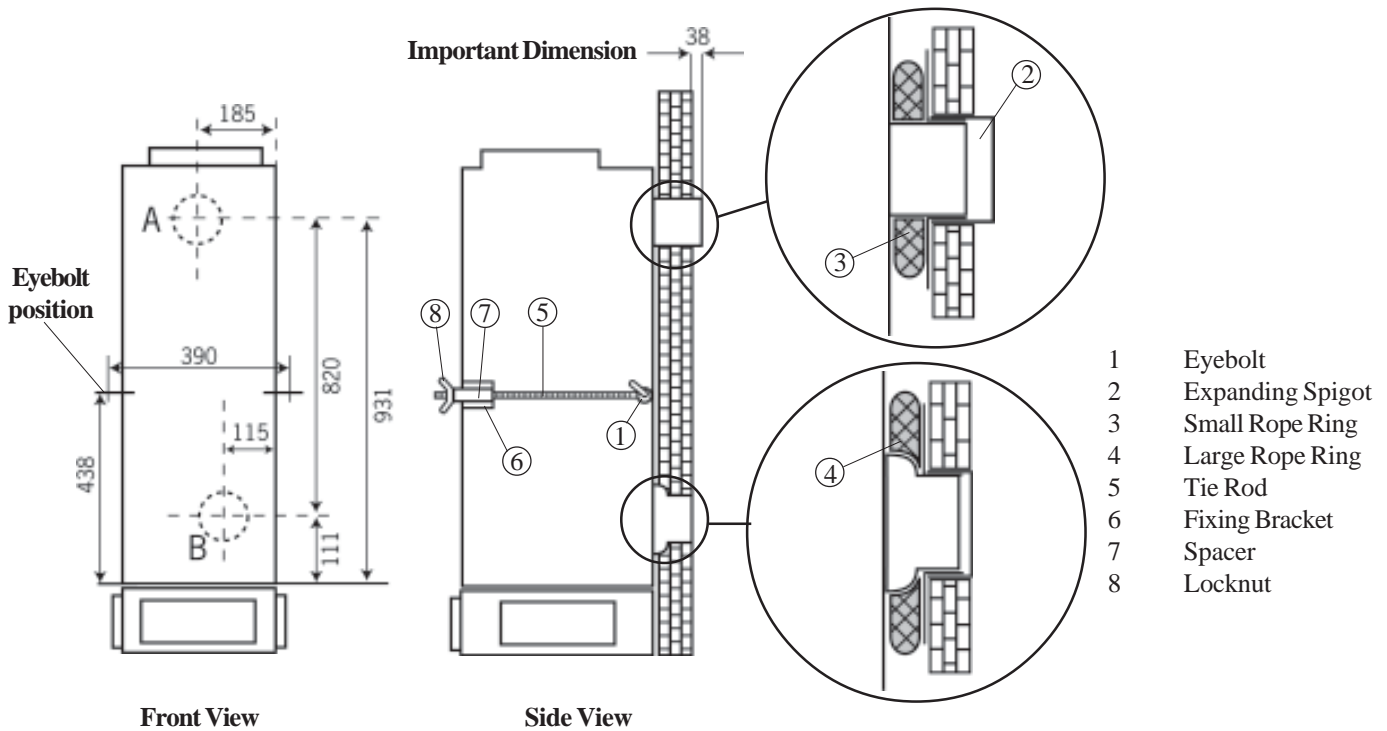

Fig. 2
- 5.2.3 **Referring to Fig. 2, NOTE THE DATUM POINTS INDICATED before proceeding.** A Sealing Template Kit (ST25) is available for cutting the holes in the SE-duct.
- 5.2.5 The holes in the SE-duct **MUST** correspond with the positions 'A' and 'B' as shown in Fig. 2, 138mm (5.5 in.) minimum diameter, 152mm (6.0in.) maximum diameter, and clear the duct of all resulting debris. Should the original heater be a SUGG Type 22/WH 'Halcyon', the existing bottom hole is suitable for use.
5.2.7 Referring to Fig. 2, drill 2 x 9mm diameter holes and fix the eye-bolts using the masonry plugs provided in the installation kit.
NB ensure that the rope ring is fitted such that it is pushed OVER the bulge the protrudes from the heater. See fig 2.